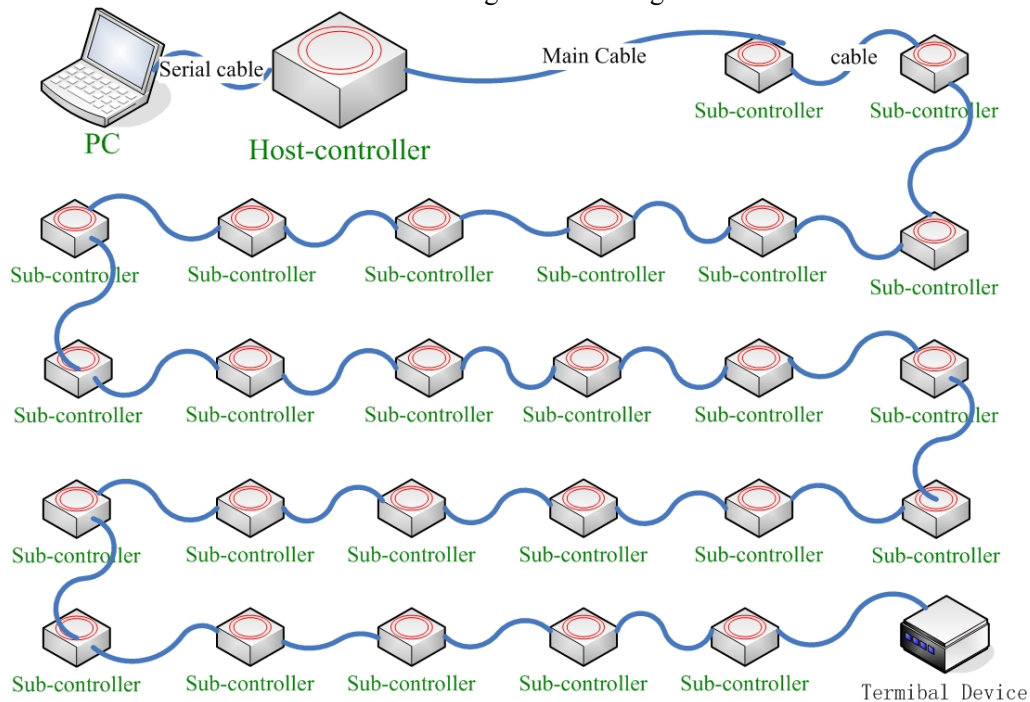
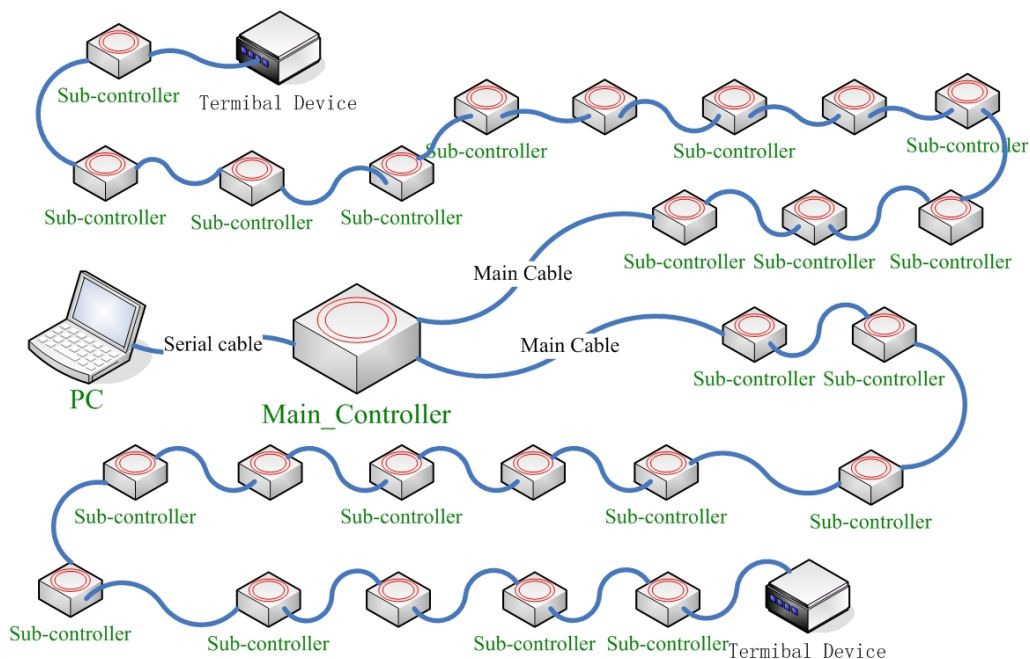

fig 9 The terminal control Method
fig 10 The intermediate control Method
- 1、The terminal control Method: Show in fig 9.This is the general connect method.
Refer to fig 9 or fig 10 to connect the system.